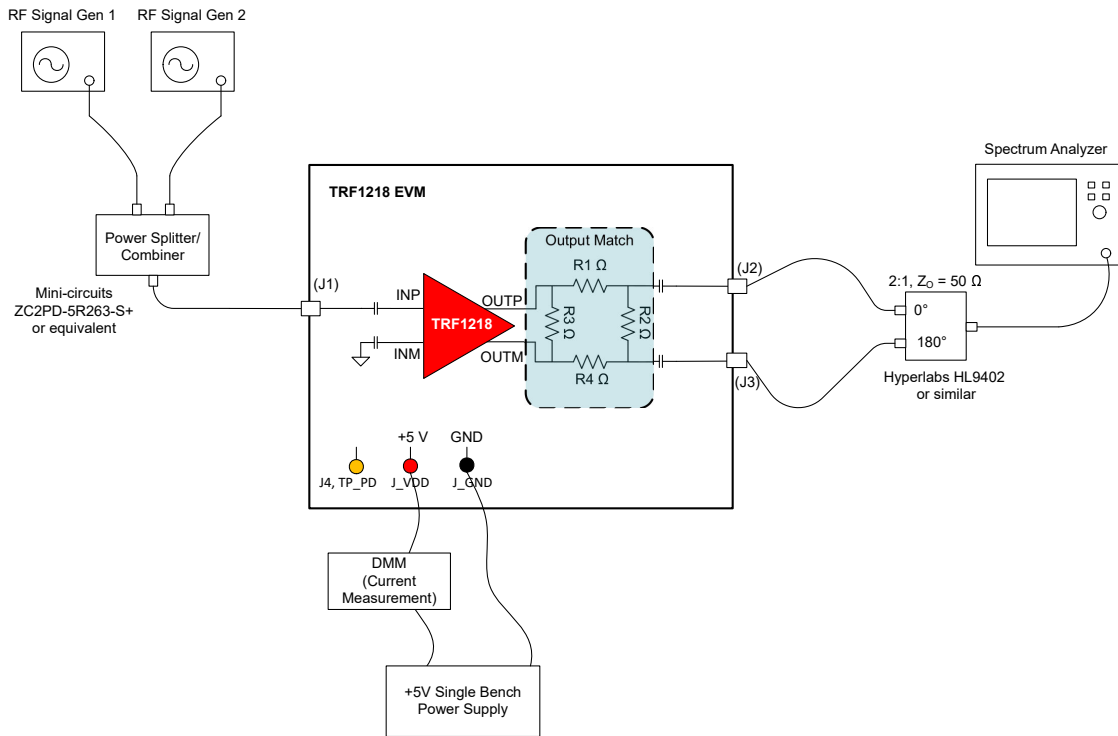

Figure 2-3. OIP3 Test Setup
1. Figure 2-3 shows the combination of two signal generator outputs using an in-phase power splitter and combiner. Use an optional 3dB to 6dB attenuator at the signal-generator outputs to prevent the generators from interacting, resulting in signal-generator IMD3 spurs.